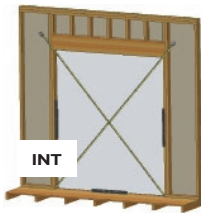

FIG. 1
- Verify the rough opening is flat, plumb, level and square. (Fig. 1)
- Take diagonal measurements to check for square. (Fig. 1)
- Make sure the bottom sill area of the rough opening is flat and level. Correct rough opening if sloped toward the interior; out of level or humped. (Fig. 1)